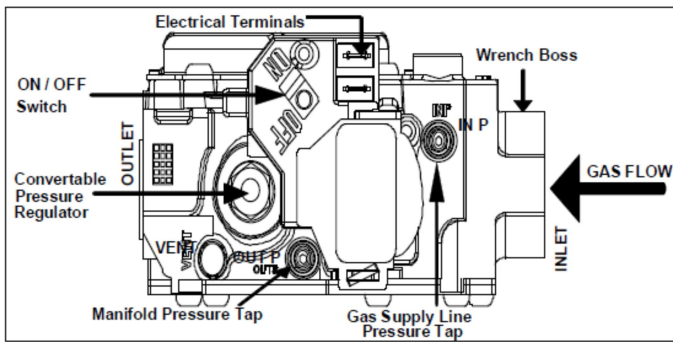

Figure 4: White Rodgers 36J Gas Valve Components
5. Move gas control switch to the "OFF" position. Do not force. See Figure 4 for switch location.
6. Wait (5) five minutes to clear out any gas. If you then smell gas, STOP! Follow "B" in the safety information above. If you do not smell gas, go on the next step.
7. Move gas control switch to the "ON" position. Do not force. See Figure 4 for switch location.
11. After three (3) trials for ignition, if the appliance will not operate follow the instructions "TO TURN OFF THE APPLIANCE" and call your service technician or gas supplier.
5. Make sure the control switch on the gas valve is in the "ON" position. Refer to Figure 4 for control switch location.